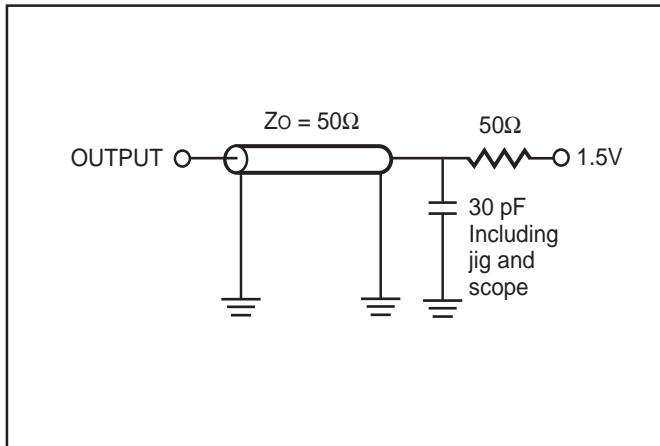

Figure 1
Output Load	See Figures 1 and 2
1. Test conditions assume signal transition times of 3 ns or less, timing reference levels of 1.5V, input pulse levels of 0 to 3 .0V and output loading specified in Figure 1.